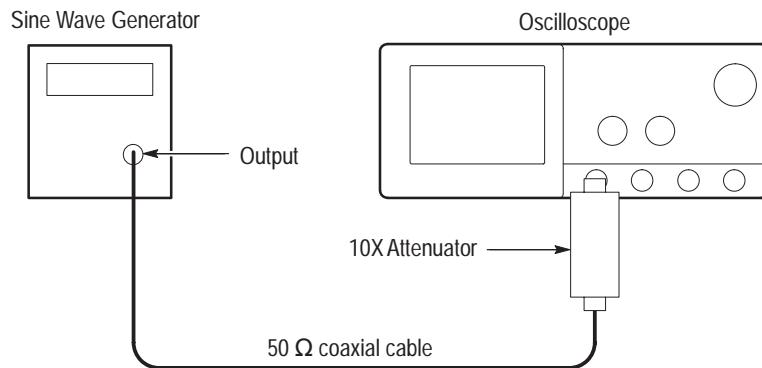

Figure 4–15: Initial test hookup
Do this through a $50\ \Omega$ precision coaxial cable, followed by a 10X attenuator. See Figure 4–15. The 10X attenuator is optional if the SG503 is used.
- c. *Set upper and lower limits that ensure triggering:* See Figure 4–16.